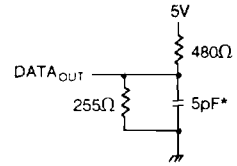

Figure 2. Output Load
4. Transition is measured $\pm 200mV$ from steady state voltage with specified loading in Figure 2. This parameter is sampled, not 100% tested.